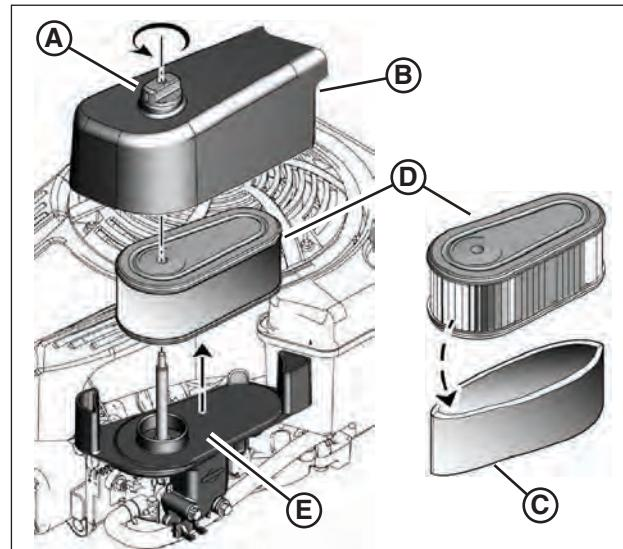

Figure 15: Air filter and pre-cleaner
1. Remove the fastener (**A**, Figure 15) and the air filter cover (**B**).